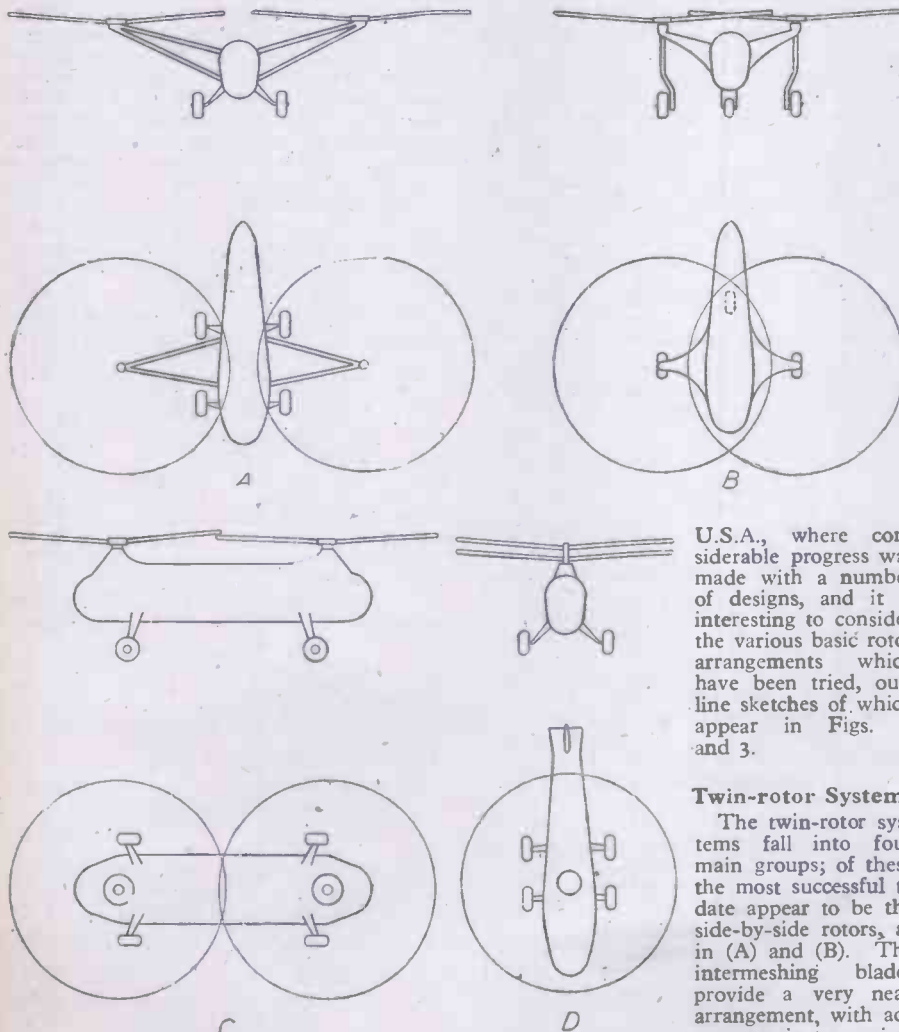

Fig. 2.—Basic twin-rotor types.
U.S.A., where considerable progress was made with a number of designs, and it is interesting to consider the various basic rotor arrangements which have been tried, outline sketches of which appear in Figs. 2 and 3.